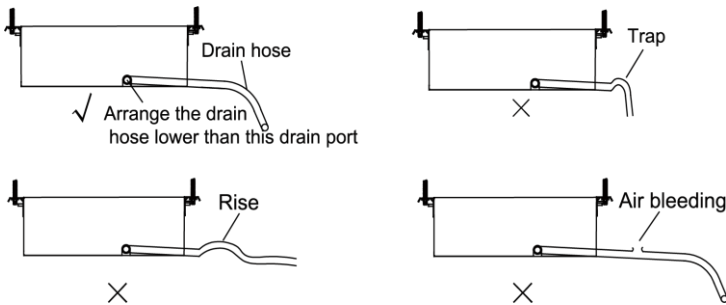

Fig. 4.20
- (1). Install the drain hose with downward gradient (1/50 to 1/100) and no risers or traps are used for the hose (Fig. 4.20).
- (2). Be sure there is no crack or leak on the drain hose to avoid the formation of air pocket (Fig. 4.20).